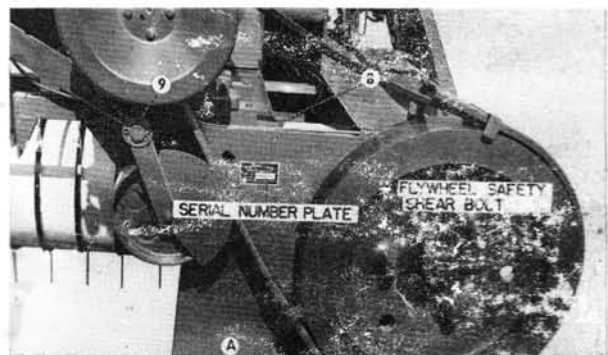

FIGURE 4
8. Figure 4—Rear connecting rod
9. Figure 4—Belt tightener. Oil with motor oil.